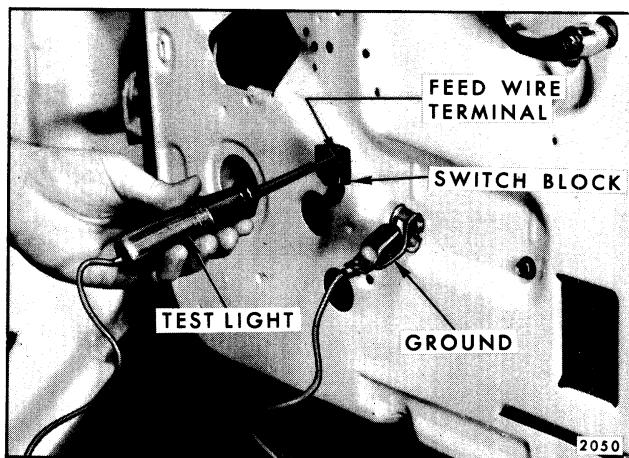

Fig. 10-9-Checking Feed Circuit
1. Connect one test light lead to feed terminal of switch block and ground other tester lead to body metal (Fig. 10-9).